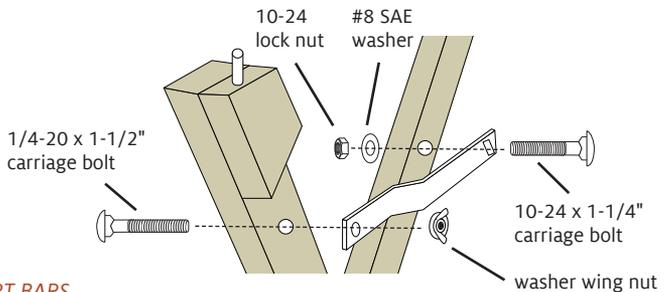

FIGURE 2: METAL SUPPORT BARS
5. Attach the metal support bars: Insert a 10-24 x 1-1/4" carriage bolt through the square hole in the metal support bar. Orient the support bar as shown in Figure 2, with its jog pointing inward toward the front of the loom,